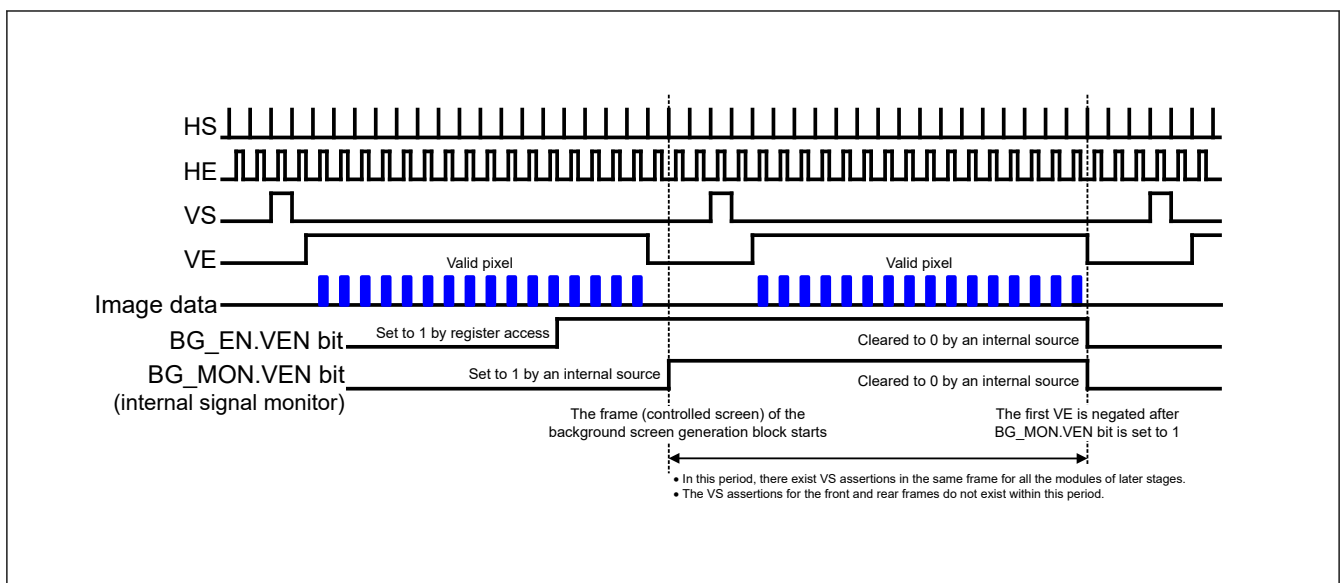

Figure 64.24 Control signals for register value reflection to internal operations
4. Confirm that the VEN bit to which 1 was set is 0. If the bit is cleared to 0, the target register contents are reflected to the internal operations. If the bit remains 1, however, the target register contents might not yet be reflected to the internal operations. The VEN bit of each module is cleared to 0 immediately after the target register values are internally reflected. However, the VEN bit of the background screen generation module is not cleared to 0 until the module output VE is negated (with all the modules, sufficient delay is secured in reference to the VS assertion of the background screen generation module so that the register values are reflected to the internal operations for the same frame). Figure 64.24 shows the operation of the signals output by the background screen generation module and the monitor bits.